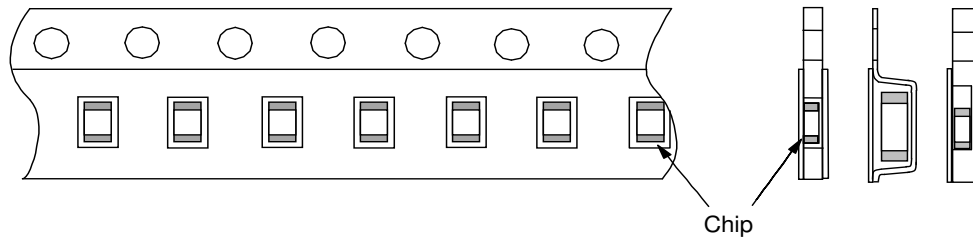

Fig.2 Dimensions of Reel
| | |  <p>Fig. 1</p> <p>t : 1.6mm</p> | <p>Solder the capacitor on the test substrate(glass epoxy board) shown in Fig1.</p> <p>Then apply a force in the direction shown in Fig 2 for 60s.</p> <p>The soldering should be done by the reflow method and should be conducted with care so that the soldering is uniform and free of defects such as heat shock.</p> <table border="1" data-bbox="949 481 1372 560"> <thead> <tr> <th>Type</th> <th>a</th> <th>b</th> <th>c</th> </tr> </thead> <tbody> <tr> <td>GCD18</td> <td>0.6</td> <td>2.2</td> <td>0.9</td> </tr> <tr> <td>GCD21</td> <td>0.8</td> <td>3.0</td> <td>1.3</td> </tr> </tbody> </table>  <p>Fig. 2</p> | Type | a | b | c | GCD18 | 0.6 | 2.2 | 0.9 | GCD21 | 0.8 | 3.0 | 1.3 |
1.11 Reel is made by resin and appearance and dimension is shown in Fig 2.